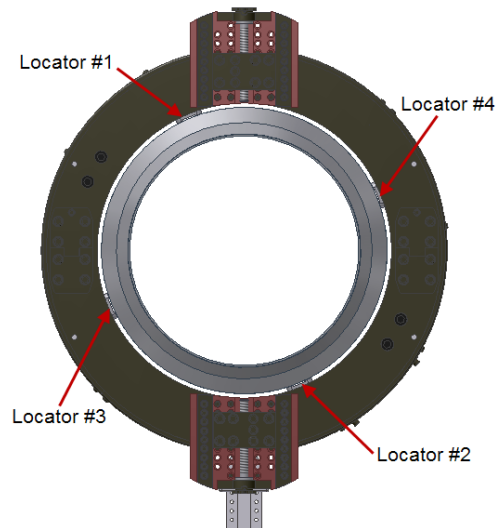

Figure 8
2. Lightly tighten two adjustable locator pads directly across from each other (locators 1 and 2 in Fig. 8), just enough to secure the Clamshell while trying to keep it centered on the work piece.
Lightly tighten two more locator pads that are directly across from each other and close to 90 degrees away from the first set of locators (locators 3 and 4 in Fig. 8). **DO NOT TIGHTEN** down completely until the Clamshell has been both squared and centered to the pipe.
1. Squaring: Place a square on the back of the Clamshell, directly in line with a locator, hold the square against the housing and the work piece and square the machine to the work piece at all four locations around the pipe (see Fig 8).